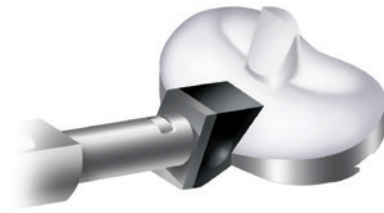

Figure 64
- 5 Place the impactor head on the anterior chamfer of the insert. The mating surfaces should be very conforming (Figures 64 and 65).